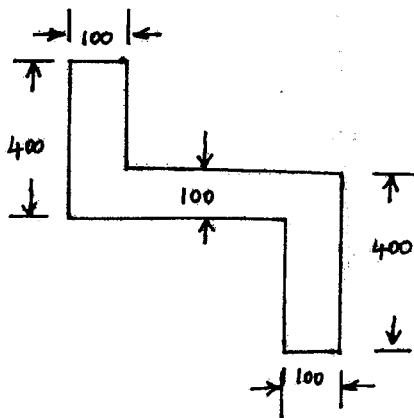

Fig 3
- a) Determine the moment of inertia of beam's cross sectional area as shown in Fig 3 about the XX and YY centroidal axes. All dimensions are in mm.